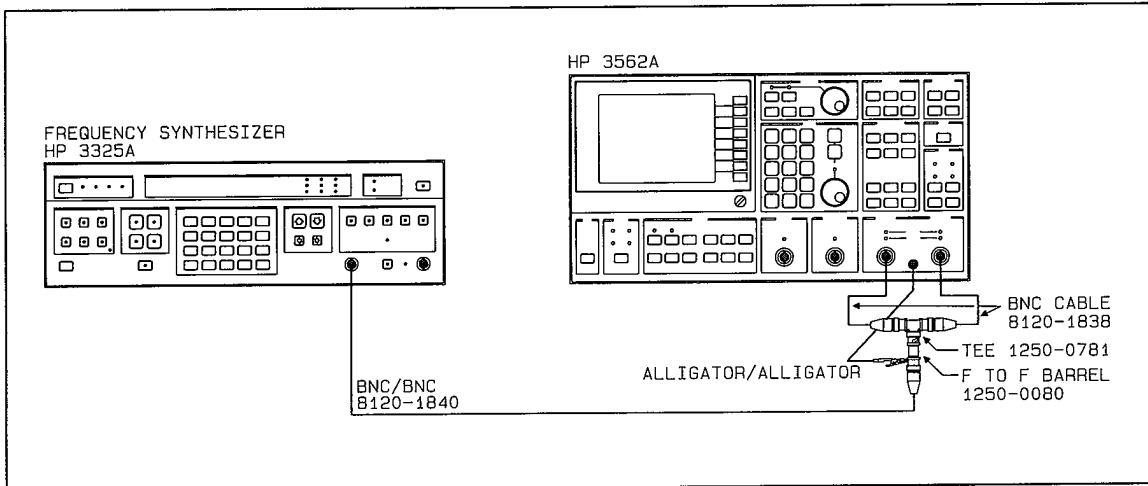

Figure 2-6 (OV) Common Mode Rejection Test Setup #1
- A. Connect the test instruments as shown in figure 2-6. Refer to "Initial Equipment Setup", paragraph 2-6, for unspecified parameters.